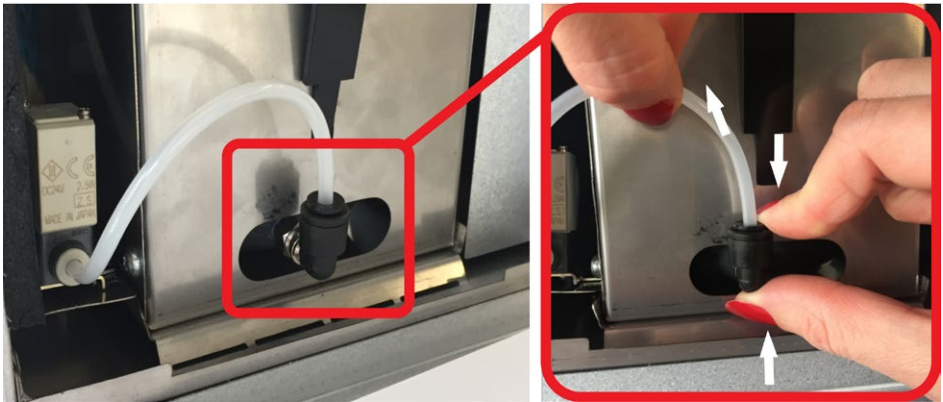

Fig. 7 Water tube disconnecting scheme
- See Fig. 7. Disconnect the cassette from the water supply by pushing the clamp on the water supply connector and pulling the hose simultaneously.
- Connect the water pipe to the water supply connection in reverse order to the one shown in Fig. 7.